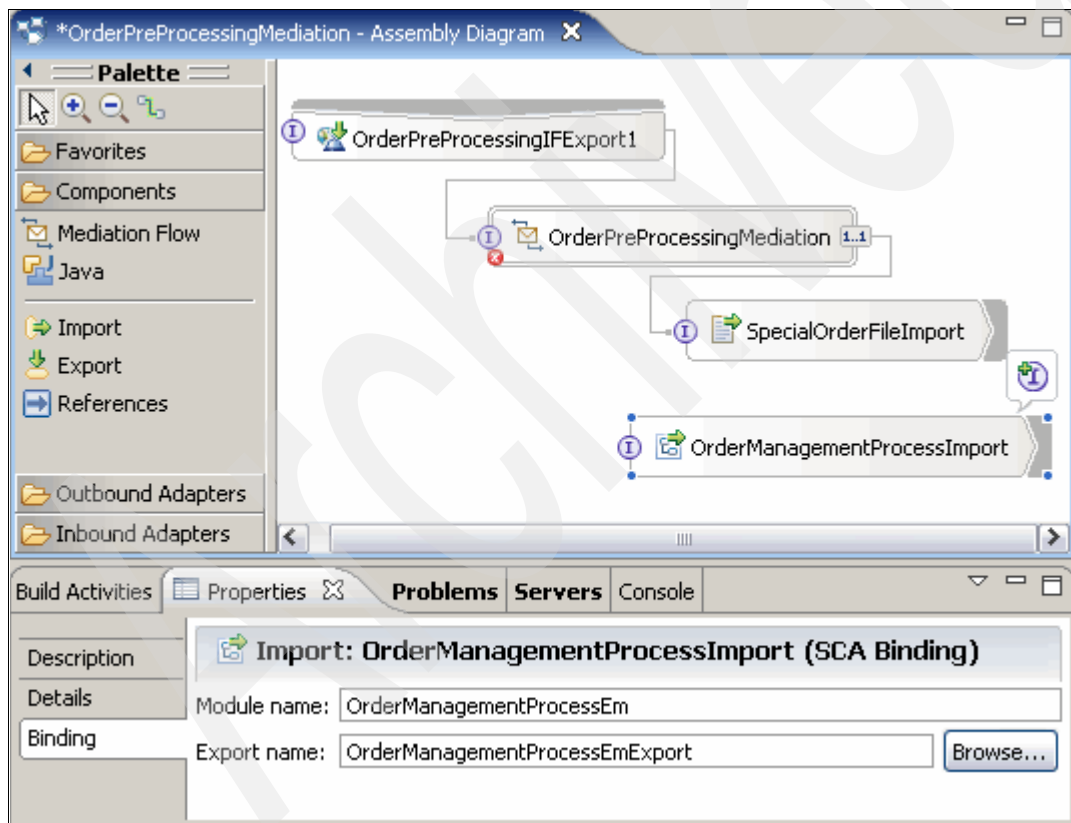

Figure 4-37 OrderManagementProcessImport SCA binding properties
- a. Click **Browse** to the right of the “Export name” field to open a list of exports. Select **OrderProcessManagementEmExport**, and click **OK**. See Figure 4-37.